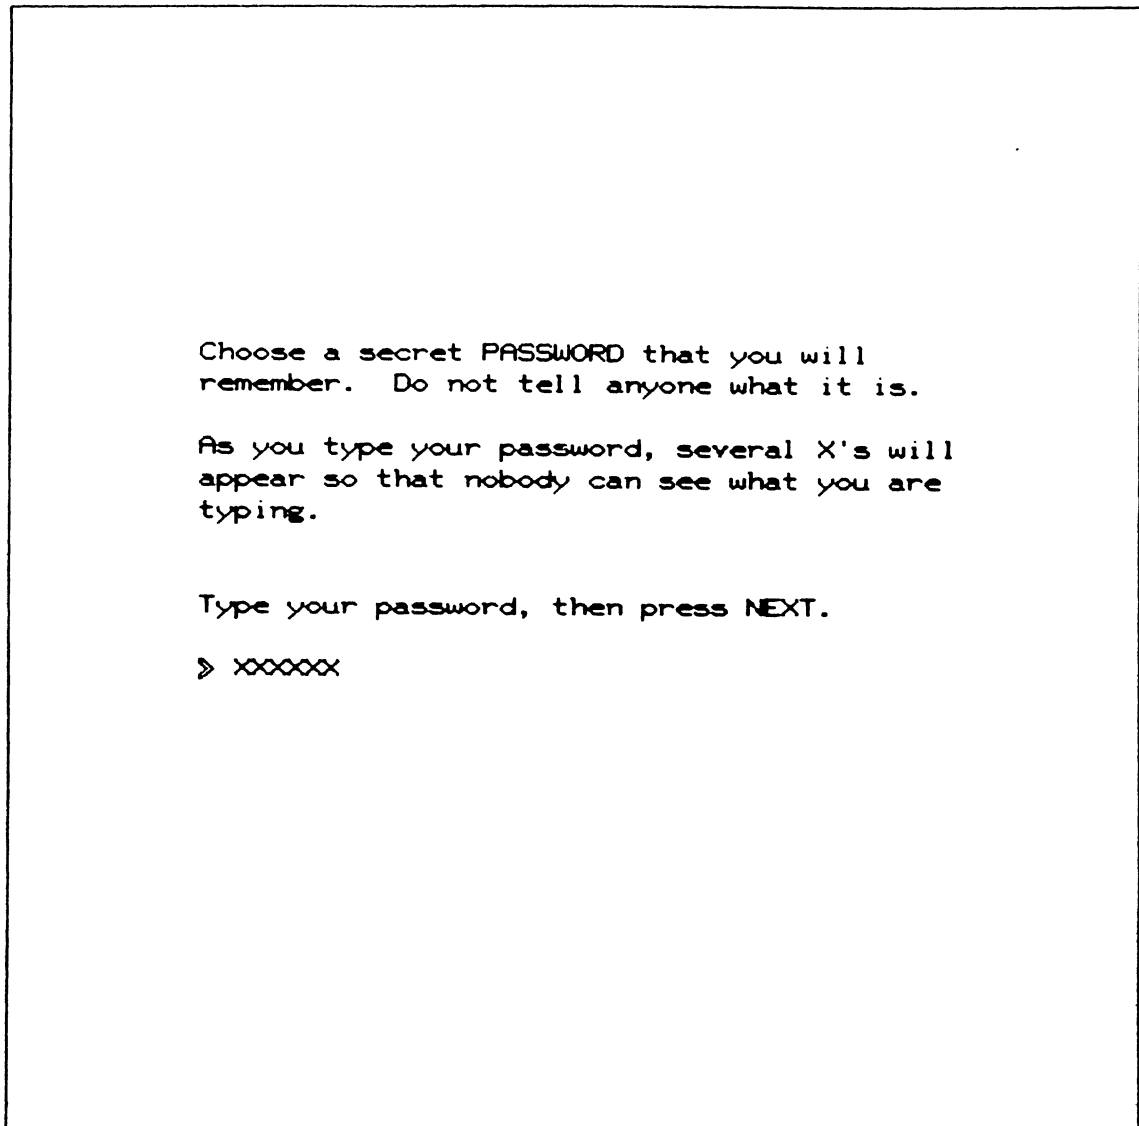

Figure B-3. Password
8. Hold down the SHIFT key and press the STOP key. You will then be asked to enter your password (figure B-3). Your password can be anything you choose, but it must be something that you can easily remember, such as a name, phone number, employee number, etc. Do not forget the password you have selected. It will become your key for gaining access to your lessons.